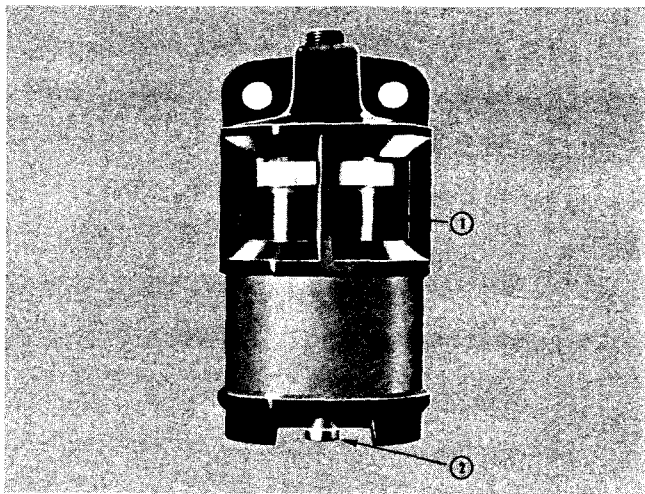

Fig. 2-7, (CGS-20). Air inlet restriction indicator
A mechanical restriction indicator is available to indicate excessive air restriction through a dry-type air cleaner. This instrument can be mounted in air cleaner outlet or on vehicle instrument panel. The red flag (1, Fig. 2-7) in window gradually rises as cartridge loads with dirt. After changing or replacing cartridge, reset indicator by pushing reset button (2).